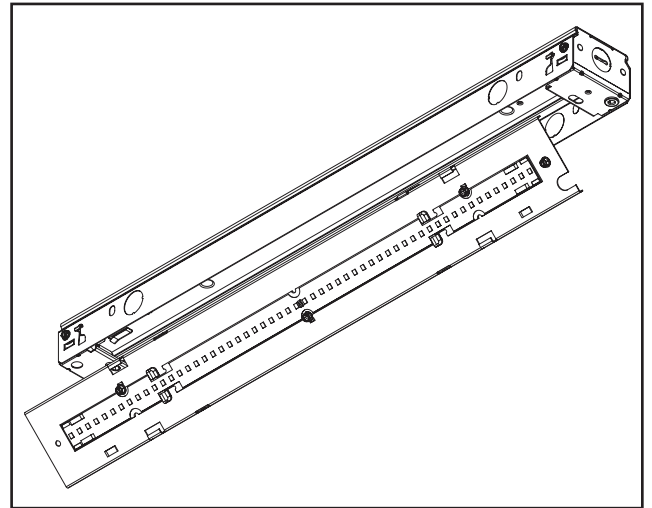

Figure 1.
1. Assemble base fixture and keep channel cover separate to simplify installation. (Figure 1.)